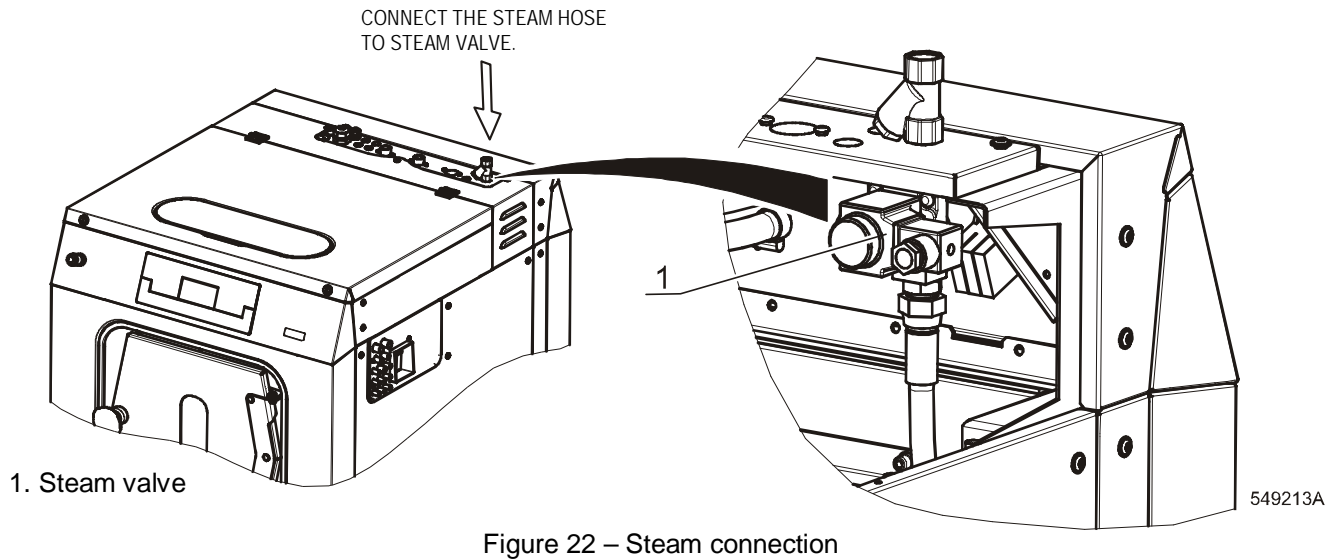

Figure 22 – Steam connection
- For dimensions of steam connection information, see Figure 22 and technical data table.